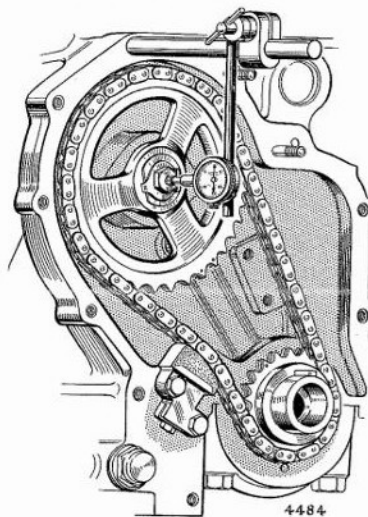

Fig B.100. Checking the camshaft end float, using a dial gauge
4. Check that the camshaft has retained the recommended end float of $-.0033$ in. to $-.0053$ in. ($-.084$ mm. to $-.135$ mm.), which may be measured by means of a dial gauge, as shown in Fig. B.100.